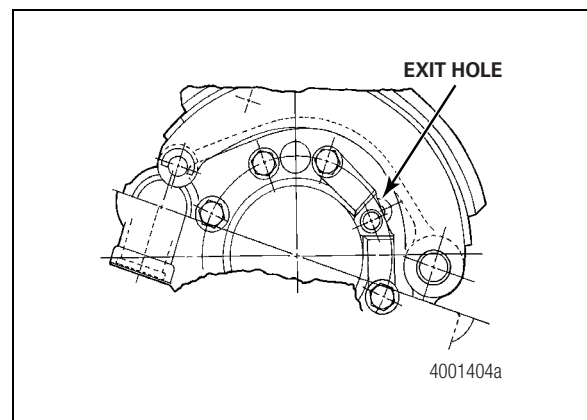

Figure 5.7
- Route the connector end of the ABS sensor through the exit hole in the brake spider and the housing brake flange. Figure 5.7.